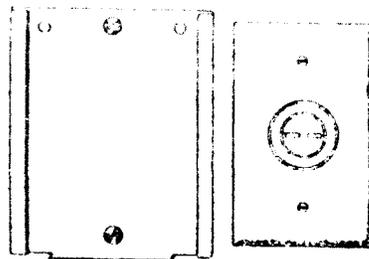

Fig. 12—Installing Bracket of NU2-B Sign
2.04 Locate bracket for Nulite NU2-B sign near outlet as indicated in Fig. 12. If outlet location, height above floor, etc. permit, bracket may also be located directly beneath outlet. If wall surface is not plumb, use shims of cardboard or other thin material behind bracket so that sign will appear to be horizontal. If surface is irregular use backboard and increase length of fasteners accordingly.